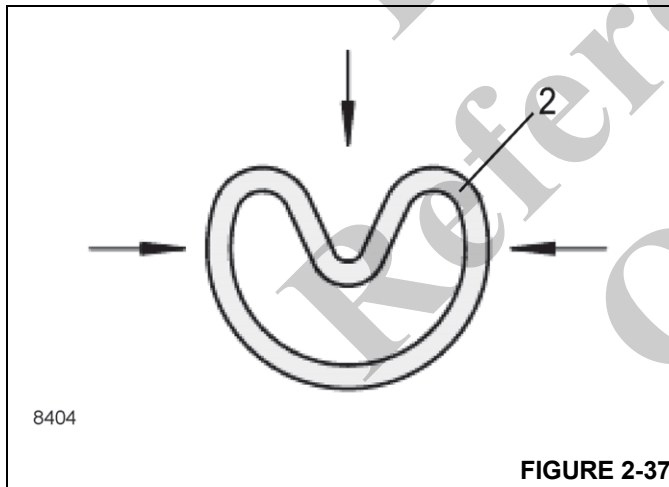

FIGURE 2-37
2. Form turcon ring item 2 as shown in Figure 2-37 to avoid sharp kinks.